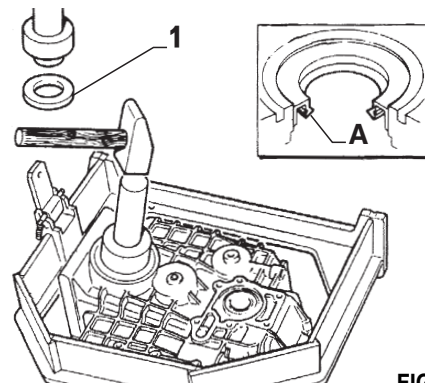
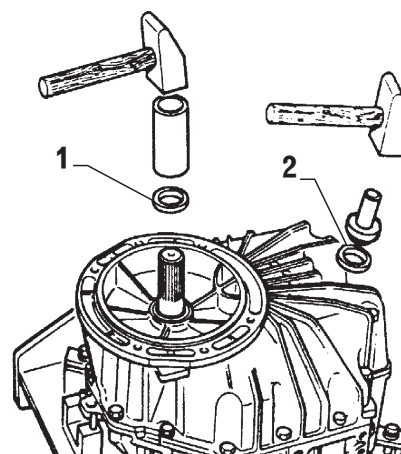

FIG. 4-3a
FIG. 4-3b
Apply thin coat of Loctite 574 on periphery of new radial shaft seal rings (item 1-2, Fig. 4-3a and Fig. 4-3b). Put a new shaft seal onto the mounting mandrel. Drive shaft seal uniformly into the housing by tapping slightly onto the mounting mandrel.
Only for transmission size $i = 2.0$ and $i = 2.5$. The radial shaft seal ring (item 1, Fig. 4-3b) of the input half of the housing can only be mounted after the housing halves have been mounted with the gear set.